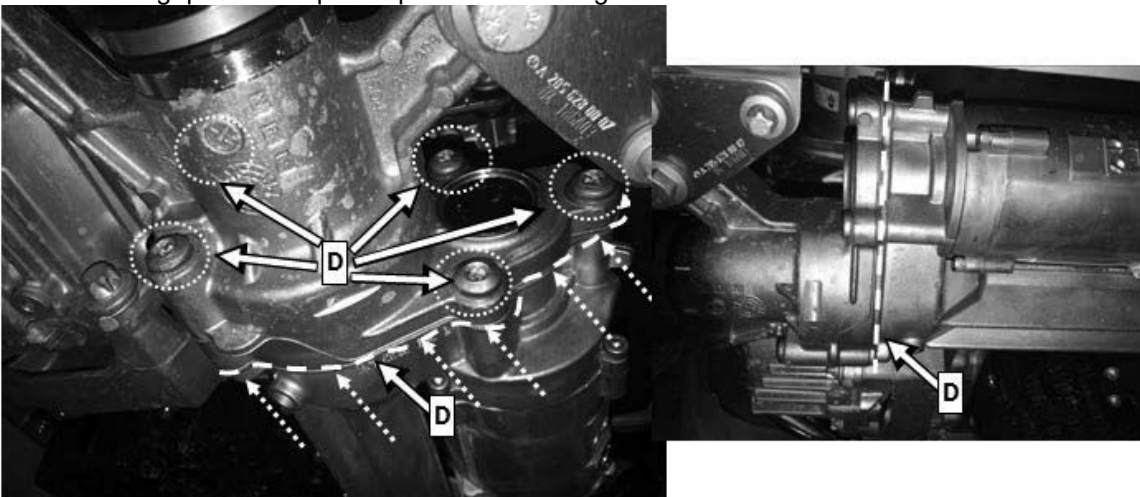

Figure 3
5. After replacing the screws, apply a generous coat of wax to the area (**D, Figure 3**) around the screw heads, screw ends, and the gap between the power-pack and the steering.
3. After replacing the screws, apply a generous coat of wax to the area (**D, Figure 3**) around the threaded connections and around the gap between the power-pack and the steering.
7. After replacing the screws, apply a generous coat of wax to the area (**D, Figure 3**) around the threaded connections and around the gap between the power-pack and the steering.
- i** To do this, select menu item "**Quick test view – N68 Electric power steering (ES) – Adaptations – Teach-in processes – Reset learned values**".